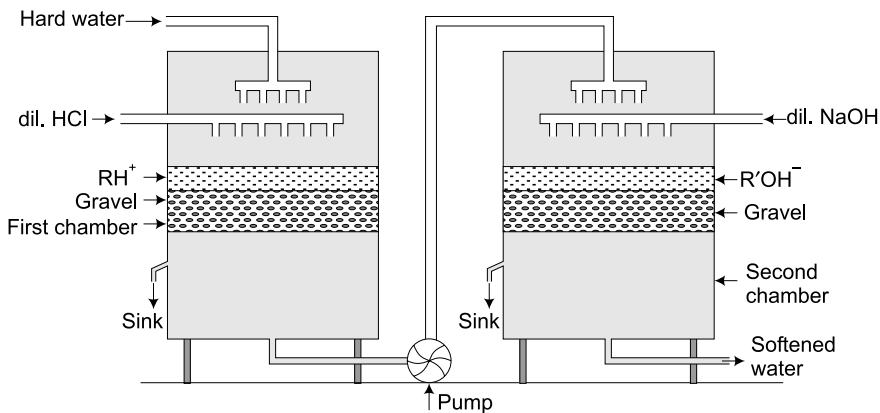

Fig. 5.7 Demineralisation of water
1. The first chamber is packed with cation exchange resin (RH^+). When the hard water is passed through a bed of cation exchange resin it exchanges hydrogen ions with Ca^{+2} , Mg^{+2} , K^+ , Na^+ , etc. of hard water (Fig. 5.7).
Thus, hardness producing anions like Cl^- , SO_4^{2-} and HCO_3^- are removed (Fig 5.7).